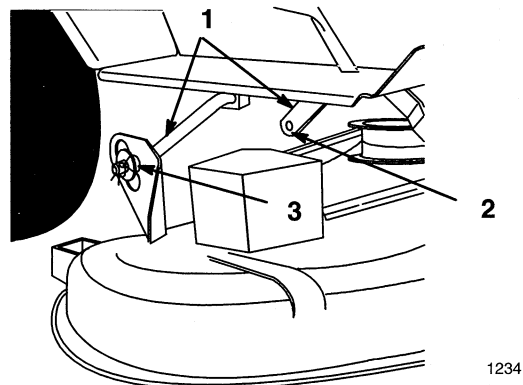

Figure 15
5. Remove hairpin cotter and washer from rear link and remove from attachment lift (Fig. 15).
6. Remove hairpin cotters and washers from rear lift arms (Fig. 15).
7. Slide deck right, off rear lift arms (Fig. 15).